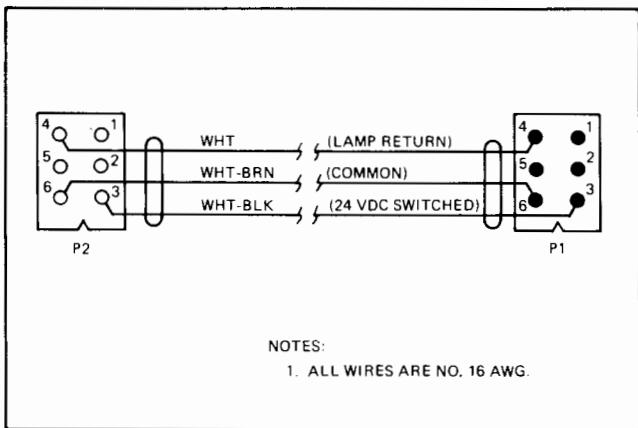

Figure 8. PCU-to-PCU/PCM Interconnecting Cable
- h. Connect J2 of PCM (or of last PCU, as applicable) to J1 of new PCU by means of interconnecting cable (figure 8) supplied with new PCU.